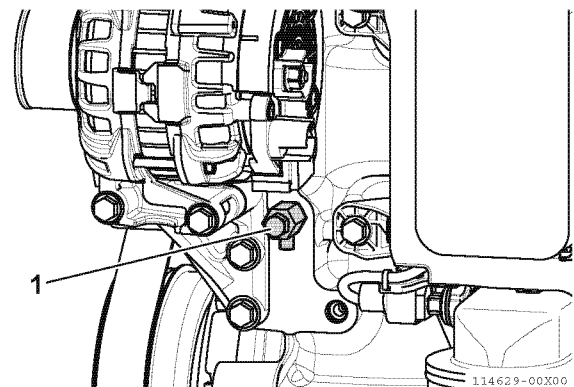

Fig.40-32
2. Check that the cylinder block drain plug (1, Fig.40-32) is closed.